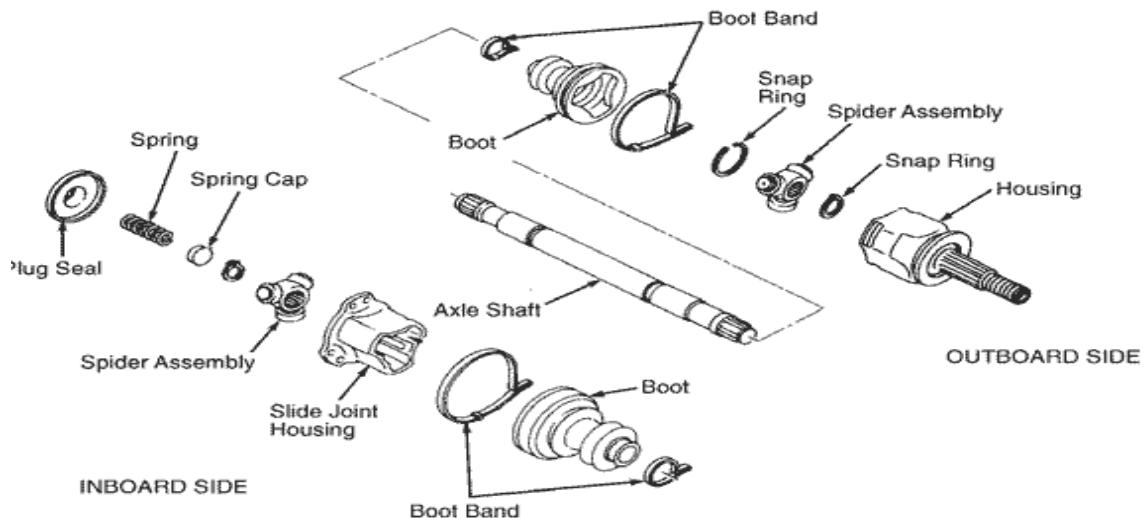

Figure Q2[c]
- Q2.** SK Company produces components for automotive industries. The shop floor consists of various machines ranging from lathe, milling, drilling, cutting and heat treatment facilities. The machines are conventional and fully computer numerical control (CNC). Usually for conventional machines take 1200 seconds and the CNC machines take 180 seconds for tools set-up. For machining time, generally the CNC machines will require half of the time needed for conventional machines for fabricating the part. The shaft needs to be heat treated. Quenching time requires 90 seconds to be completed. The company has just won a contract from an Original Equipment Manufacturer (OEM) for assembling a component as shown in Figure Q2. Therefore, the management has decided to fabricate the axle shaft in house and the rest of the components will be bought from various suppliers. Therefore as a process engineer at the company you have given the following tasks to complete:
- [a] **From the process planning perspective what would be the procedure that needs to be considered when drafting the process planning for the component shown in Figure Q2.**
- [b] **Develop a detail process planning for fabricating the axle shaft as shown in Figure Q2.**